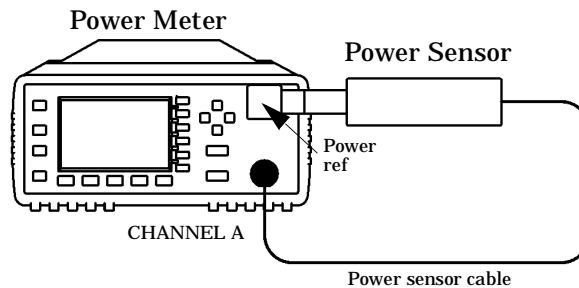
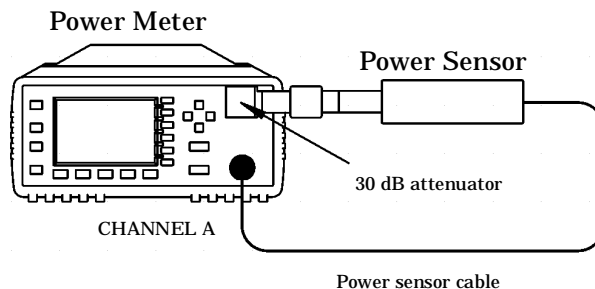

Figure 2-6: Sensor (Average Path) Functional Test Setup
Figure 2-7: Sensor (Average Path) Functional Test Setup With Attenuator
Refer to Figure 2-6 and Figure 2-7 below.
1. Connect the equipment as shown in Figure 2-6.
6. Connect the 30 dB attenuator as shown in Figure 2-7.
14. Disconnect the 30 dB attenuator and reconnect the test setup as shown in Figure 2-6.